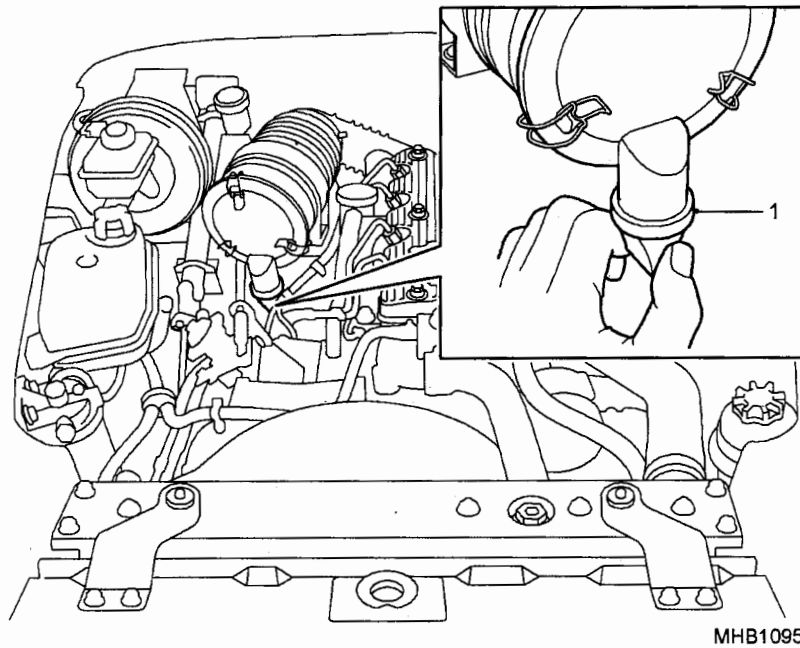

Fig 15 To check dump valve - Donaldson
- 19.1 Squeeze open the dump valve (Fig 15 (1)) and check that the interior is clean.